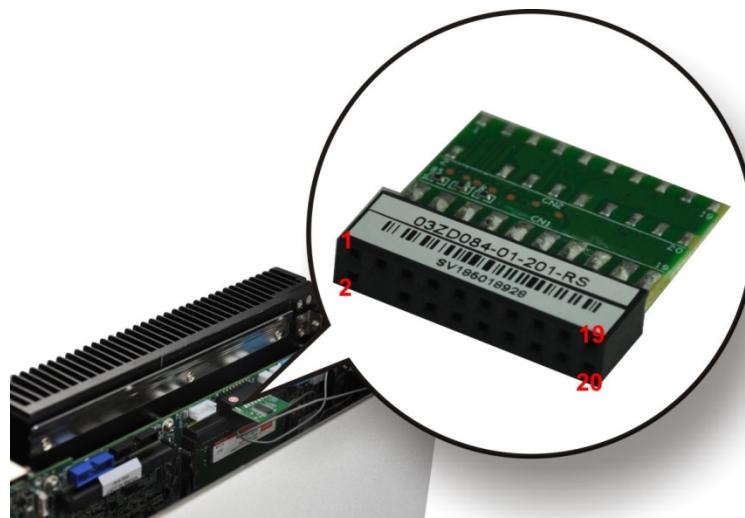

Figure 3-28: TPM Module Installation
**Step 3:** Insert the TPM module. Make sure that pin 1 on the TPM module corresponds to pin 1 on the TPM connector (**Figure 3-28**).
**Step 5:** Remove the retention screws on the expansion slot bracket. See **Figure 3-28**.